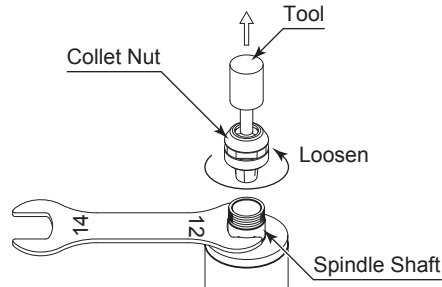

Fig. 5
- ① Remove the tool according to the section " 7. CHANGING THE TOOL " procedure above and remove collet nut assembly (Fig. 5).